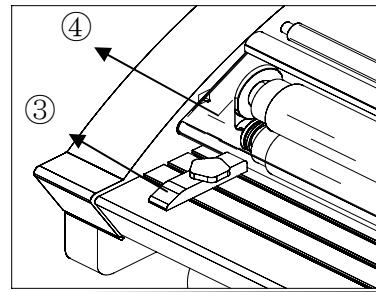

Figure 3
Feed Guide (3) -The feed guide permits alignment of the item(s) to be laminated. To position the adjustable guide, loosen the knob, slide it to the desired position and tighten the knob to secure the feed guide in place. (Fig.3)